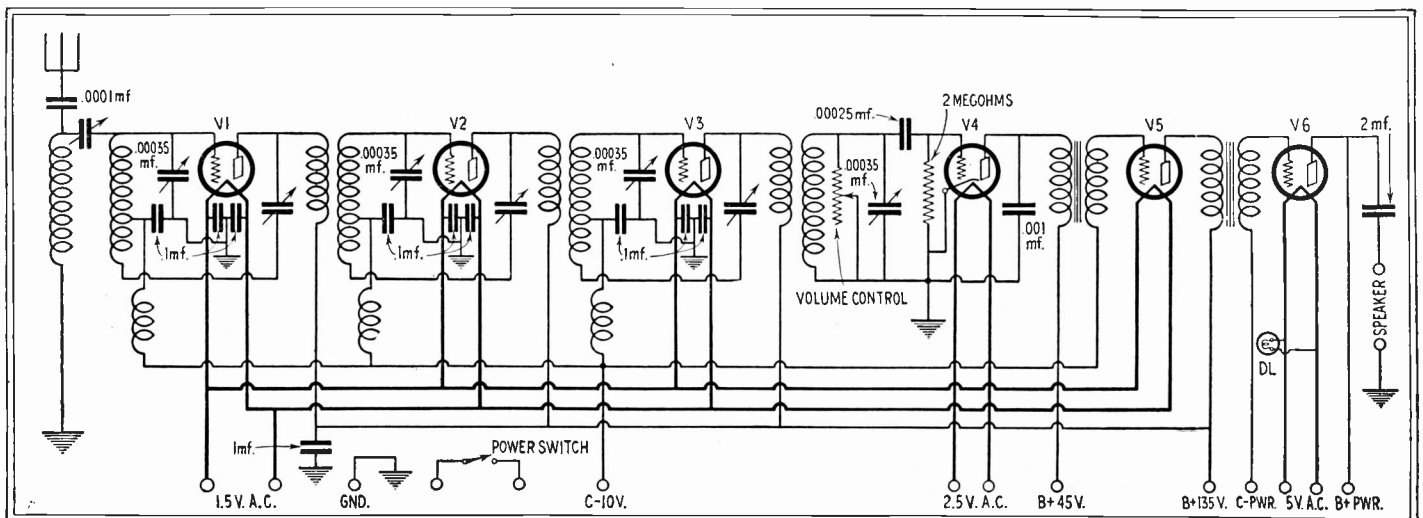

FIG. 48—The schematic diagram of the All-American 6-tube electric receiver, showing its special balancing method.
(48) Mr. G. C. Edwards, Tarrytown, New York, writes:
A. 1. We are showing the requested diagram as Fig. 48. As you will notice, a system similar to the Rice method of balancing is employed. In this system, the voltages fed back through the internal capacity of the tube, from the plate to the grid, enter the secondary winding and pass down through part of the secondary coil to the filament. The voltages fed through the balancing condenser enter the winding at the opposite end and pass up through the winding to the filament. The voltages in these two circuits are made equal by adjusting the balancing condenser. Since the two